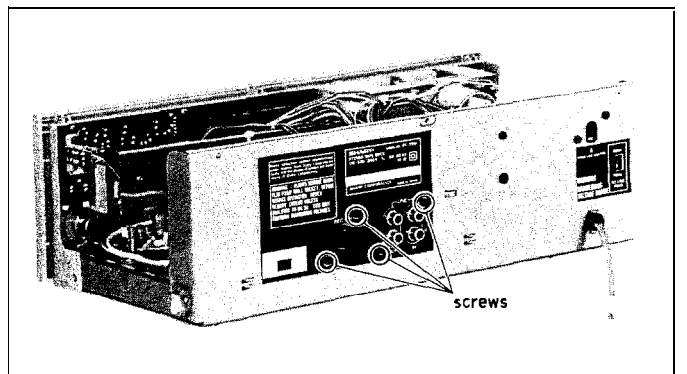

Figure 4-4
3. Remove the four (4) screws from the line input/output sockets (J4A to D) and DIN record/playback socket (SO1) at the rear of the unit. (Refer to Figure 4-4.)